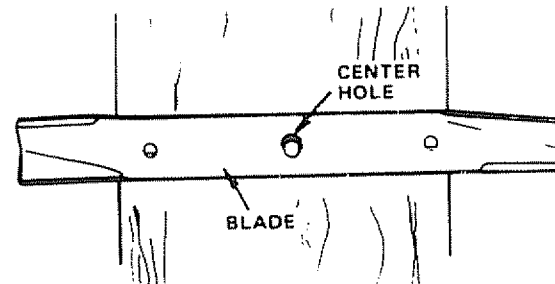

FIGURE 20
- To check blade balance, drive a nail into a beam or wall. Leave about one inch of the straight nail exposed. Place center hole of clean blade over the head of the nail (Fig. 20). NOTE: CENTER HOLE OF BLADE ON NAIL. IF BLADE IS PROPERLY BALANCED, BLADE SHOULD REMAIN IN POSITION SHOWN IN FIG. 20. IF EITHER END OF THE BLADE MOVES DOWNWARD, BLADE IS NOT BALANCED. SHARPEN THE HEAVY END UNTIL BLADE IS BALANCED.